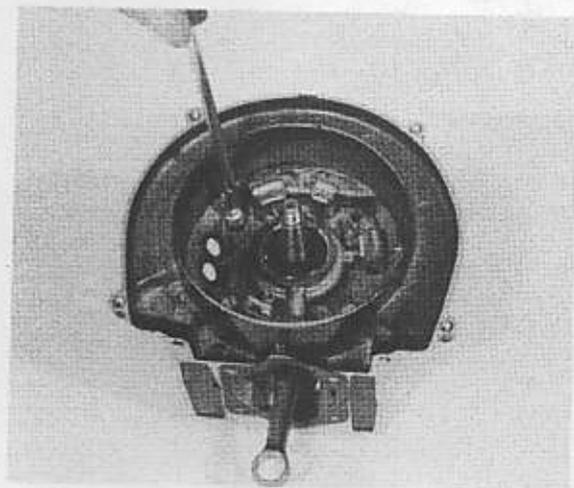

Fig. 26
1. Remove the four screws joining the crankcase halves (Fig. 26).
1. Svitare le 4 viti dei semicarter (Fig. 26)